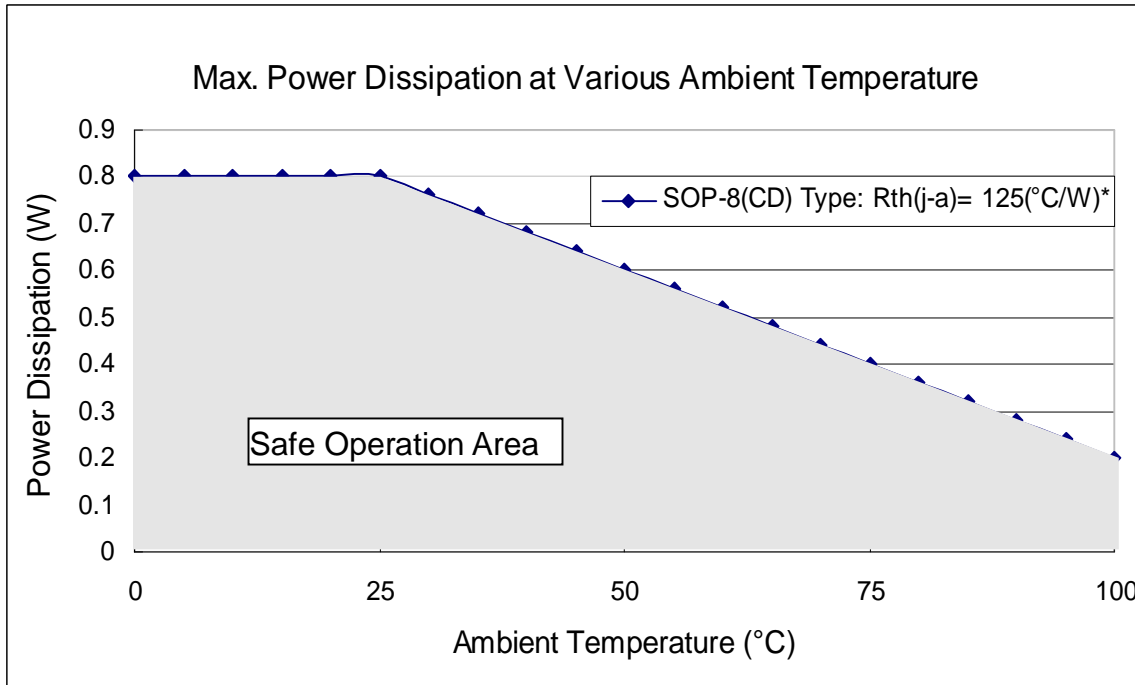

Figure 6
*Users must notice that the power dissipation (almost equaling to $I_{OUT} \times V_{DS}$) should be within the Safe Operation Area shown in Figure 6.